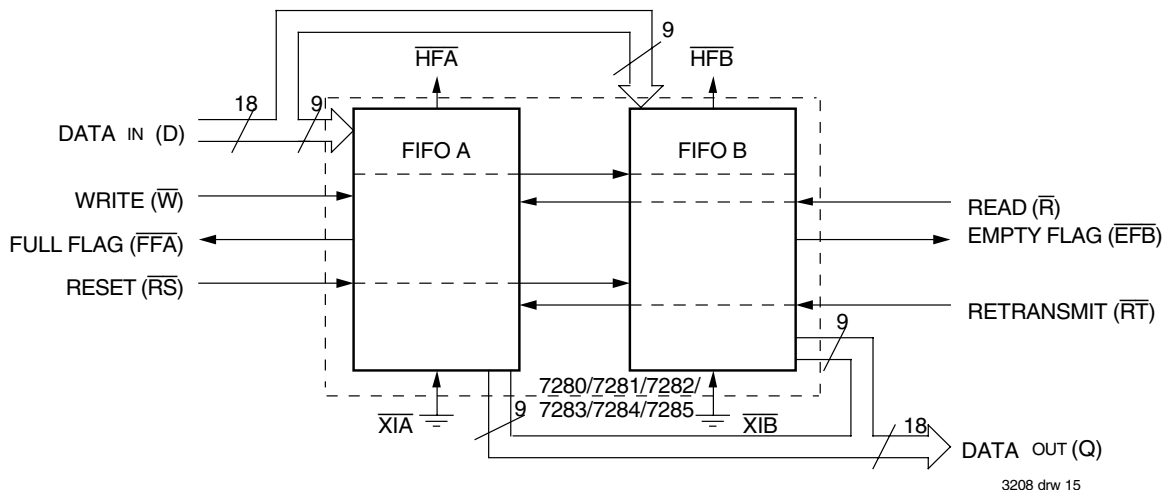

Figure 13. Block Diagram of 256 x 18, 512 x 18, 1,024 x 18, 2,048 x 18, 4,096 x 18, 8,192 x 18 FIFO Memory Used in Width Expansion Mode
Word width may be increased simply by connecting the corresponding input control signals of multiple FIFOs. Status flags ( $\overline{EF}$ ,  $\overline{FF}$  and  $\overline{HF}$ ) can be detected from any one FIFO. Figure 13 demonstrates an 18-bit word width by using the two FIFOs contained in the IDT7280/7281/7282/7283/7284/7285s. Any word width can be attained by adding FIFOs (Figure 13).
2. For Flag detection see section on Width Expansion and Figure 13.